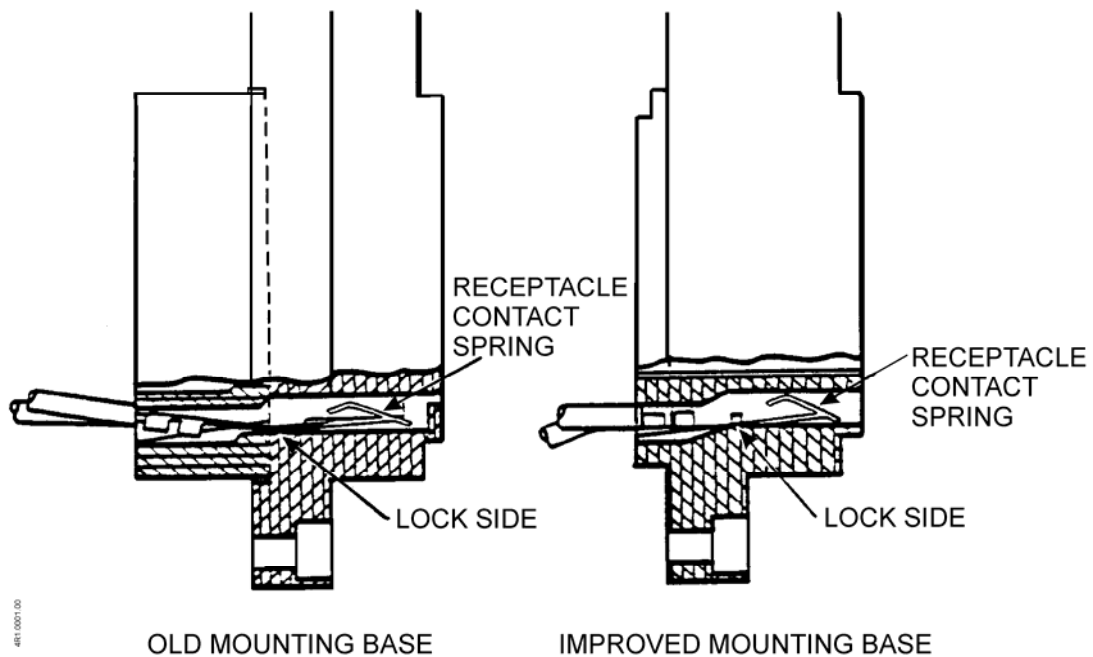

Figure 2-2. Receptacle Contact Spring Installed
- a. Receptacle contact springs must be inserted into the base with the lock side down (Refer to Figure 2-2).